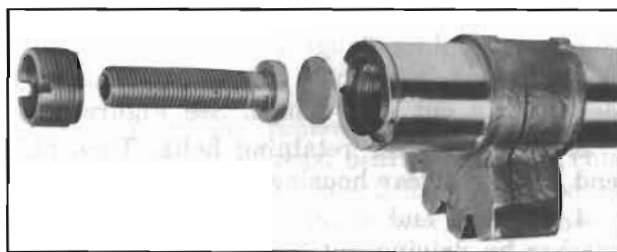

Figure 8-22—Lash Adjusting Screw
2. Install new adjusting screw retainer, turning it down so adjusting screw is free to turn, but has no perceptible end play. Stake retainer securely into slot in pitman shaft in two places. See Figure 8-22.